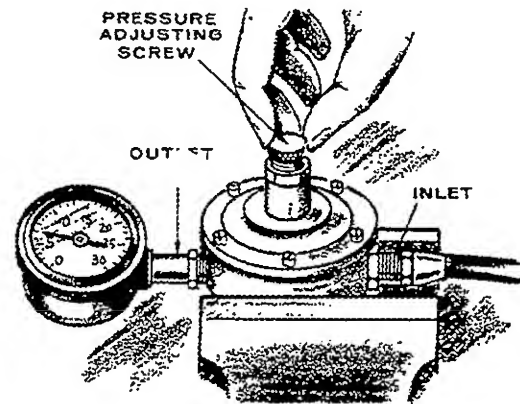

FIGURE 25. VAPORIZER ADJUSTMENT
1. Place the vaporizer in a vise or other suitable clamp. Attach an air hose from an air supply of approximately 75 psi (517.5 kPa) to the inlet, Figure 25.